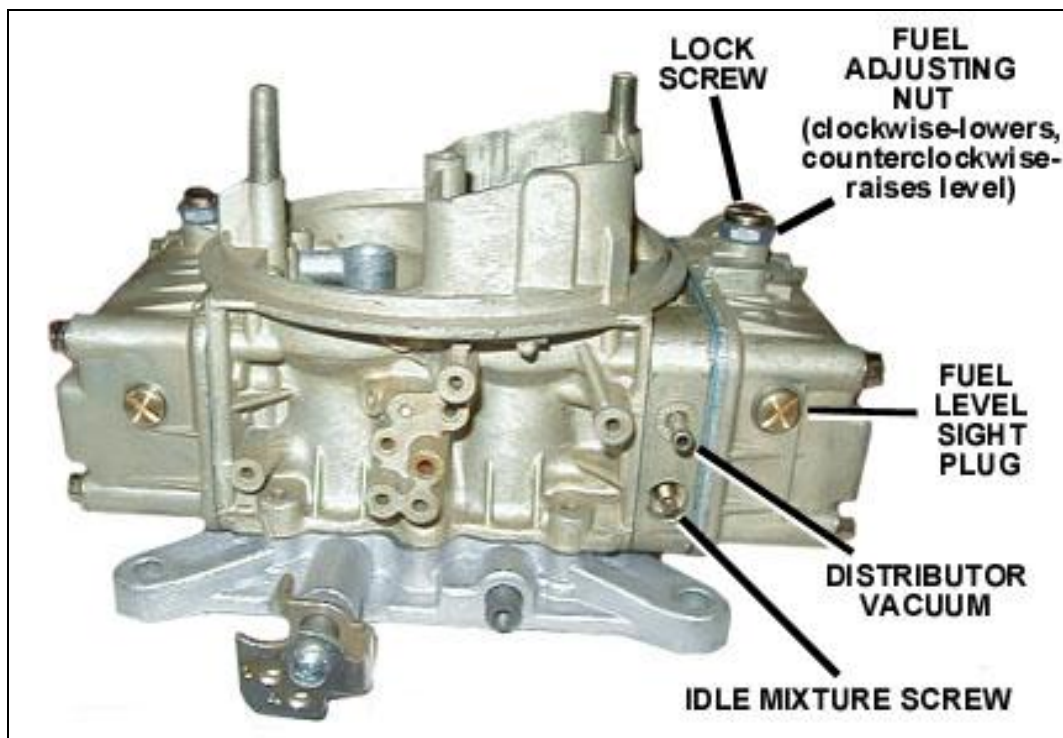

Figure 2
6. Connect the distributor advance line to the carburetor. (See Fig. 2) Plug this port, if it is not used.
NOTE: It is easier to make the idle setting with the air cleaner removed, but to ensure that the final readings are correct, they should be taken with the air cleaner installed. (See Fig. 2)